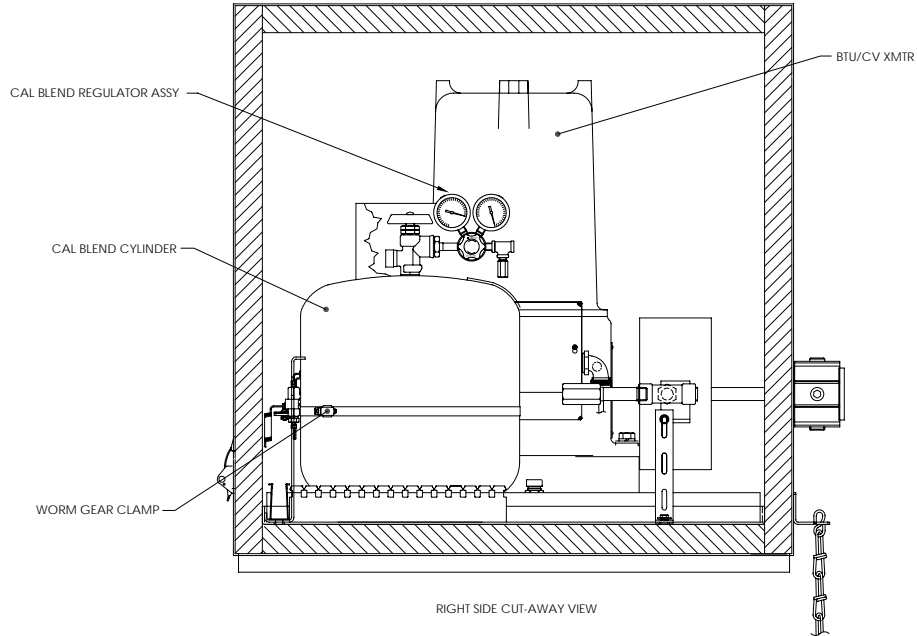

Figure 39 Calibration Bottle Location
- 1) Locate the bottle bracket in the right front area of the Cold Weather Enclosure (see Figure 39).